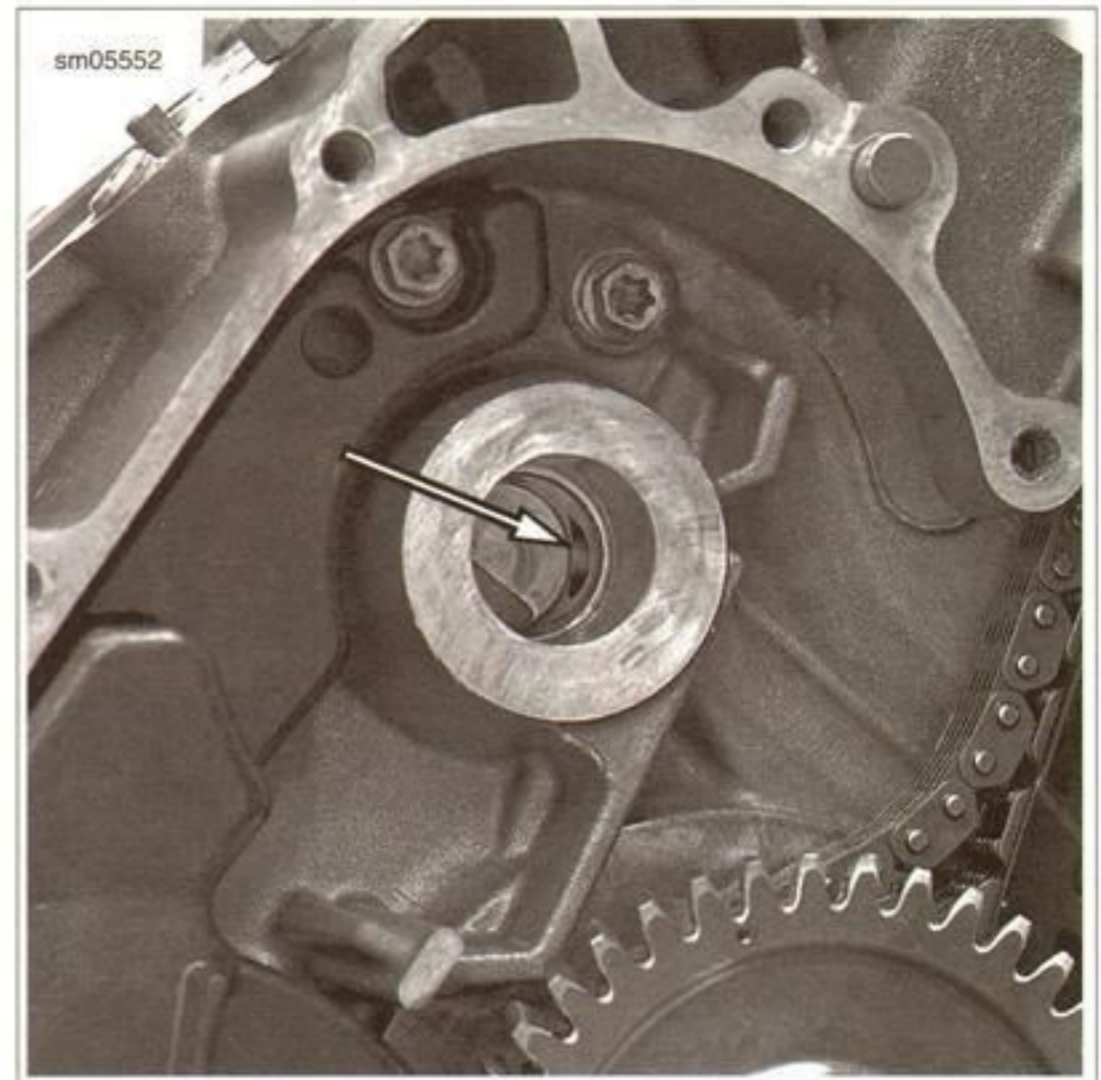

Figure 3-150. Oil Passage in Balancer Support in Crankcase
1. See Figure 3-150. Inspect the bearing surface in the crankcase.